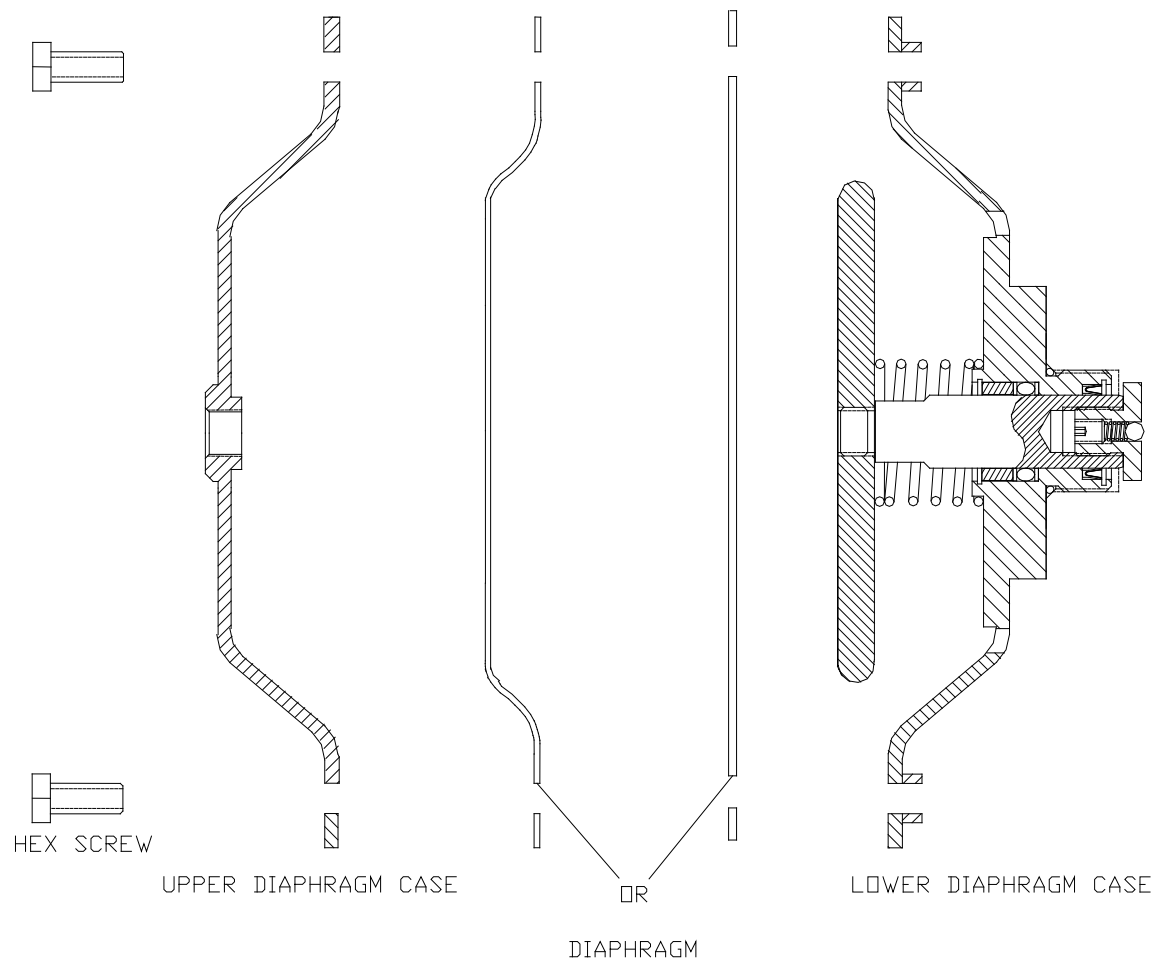

FIGURE 7
- 3.2.8 To replace the remaining seals, remove the hex head nuts #32 (18 each) and bolts #31 (18 each) that hold the diaphragm case together. Separate the two halves and examine the diaphragm #2. Replace, if necessary (see Figure 7).
- 3.2.9 To unscrew the shield/shaft adapter, hold on to the diaphragm plate. With a wrench, unscrew the adapter from the shaft (see Figures 7 and 8).